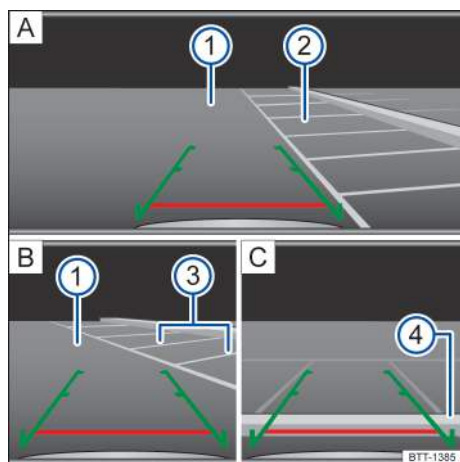

Fig. 118 On the screen: Orientation lines for the parking space behind the vehicle.
Key to **fig. 118**:
- Position the vehicle in front of the parking space → **fig. 118** ② **A**.
- Slowly back up and steer so that the lateral green orientation lines lead into the parking space ③ **B**.
- Align the vehicle in the parking space so that the green orientation lines are parallel to the selected parking space ③ **B**.
- Stop the vehicle before (or at the very latest, when) the horizontal red line reaches the rear boundary, for example, a curb ④ **C**.